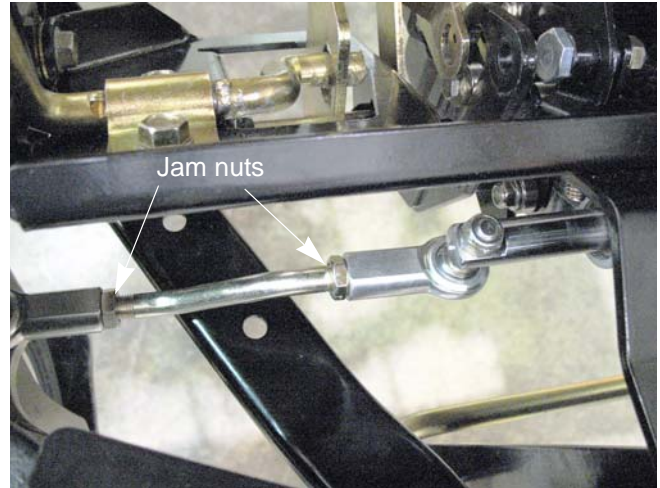

Figure 6.79
7. Loosen the jam nuts on both ends of the tie rod(s). See Figure 6.79.